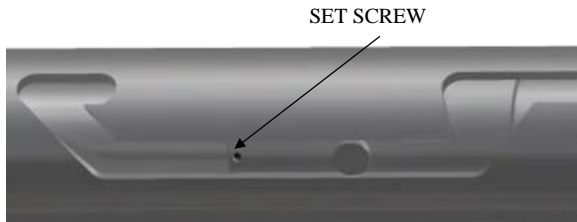

Fig. 7
- K-1.17) Rotate J-body (20) as needed to position J-pin of J-pin bottom sub (23) along J-slot to access threaded holes (Fig. 7). Screw set screw (22) into J-pin bottom sub (23).